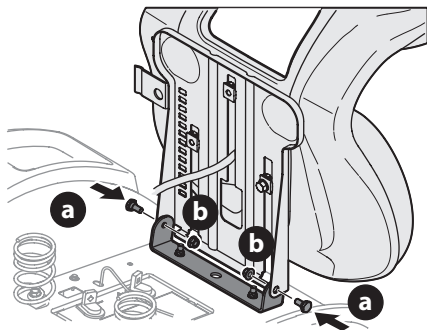

Figure 2
4. With the previously removed shoulder bolts (a) and flange lock nuts (b) secure one side of the seat and seat bracket. While supporting the seat, remove the Phillips screwdriver and secure the other side of the seat. Be careful not to crimp or damage the wire harness while installing the seat (Figure 2). Torque to 84-103 in-lbs (9-12 N-m).